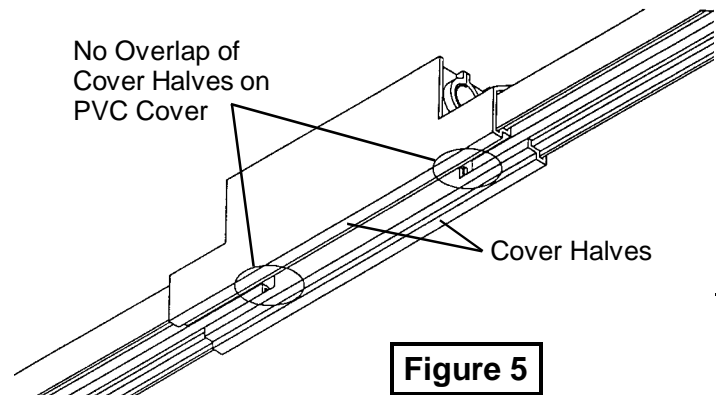

Figure 5
2.2.4.2 **Important: DO NOT allow the cover halves to overlap the PVC conductor cover. Overlapping the cover may derail the collector during operation (see Figure 5).**